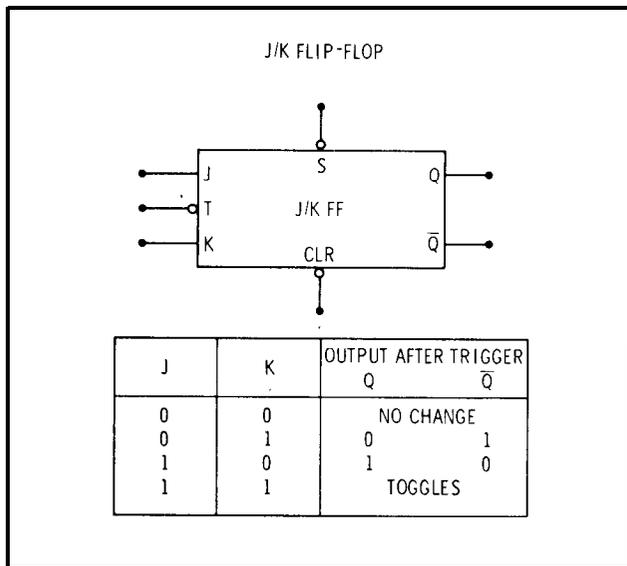

Figure 8-8. J/K Flip-Flop
8-50. J/K Flip-Flop. Figure 8-8 shows a typical J/K flip-flop. The trigger-(T) input is activated by a low-going signal as indicated by the circle on the symbol. Flip-flop response is determined by the values of the J and K inputs at the instant that a low-going signal is applied to the trigger input: